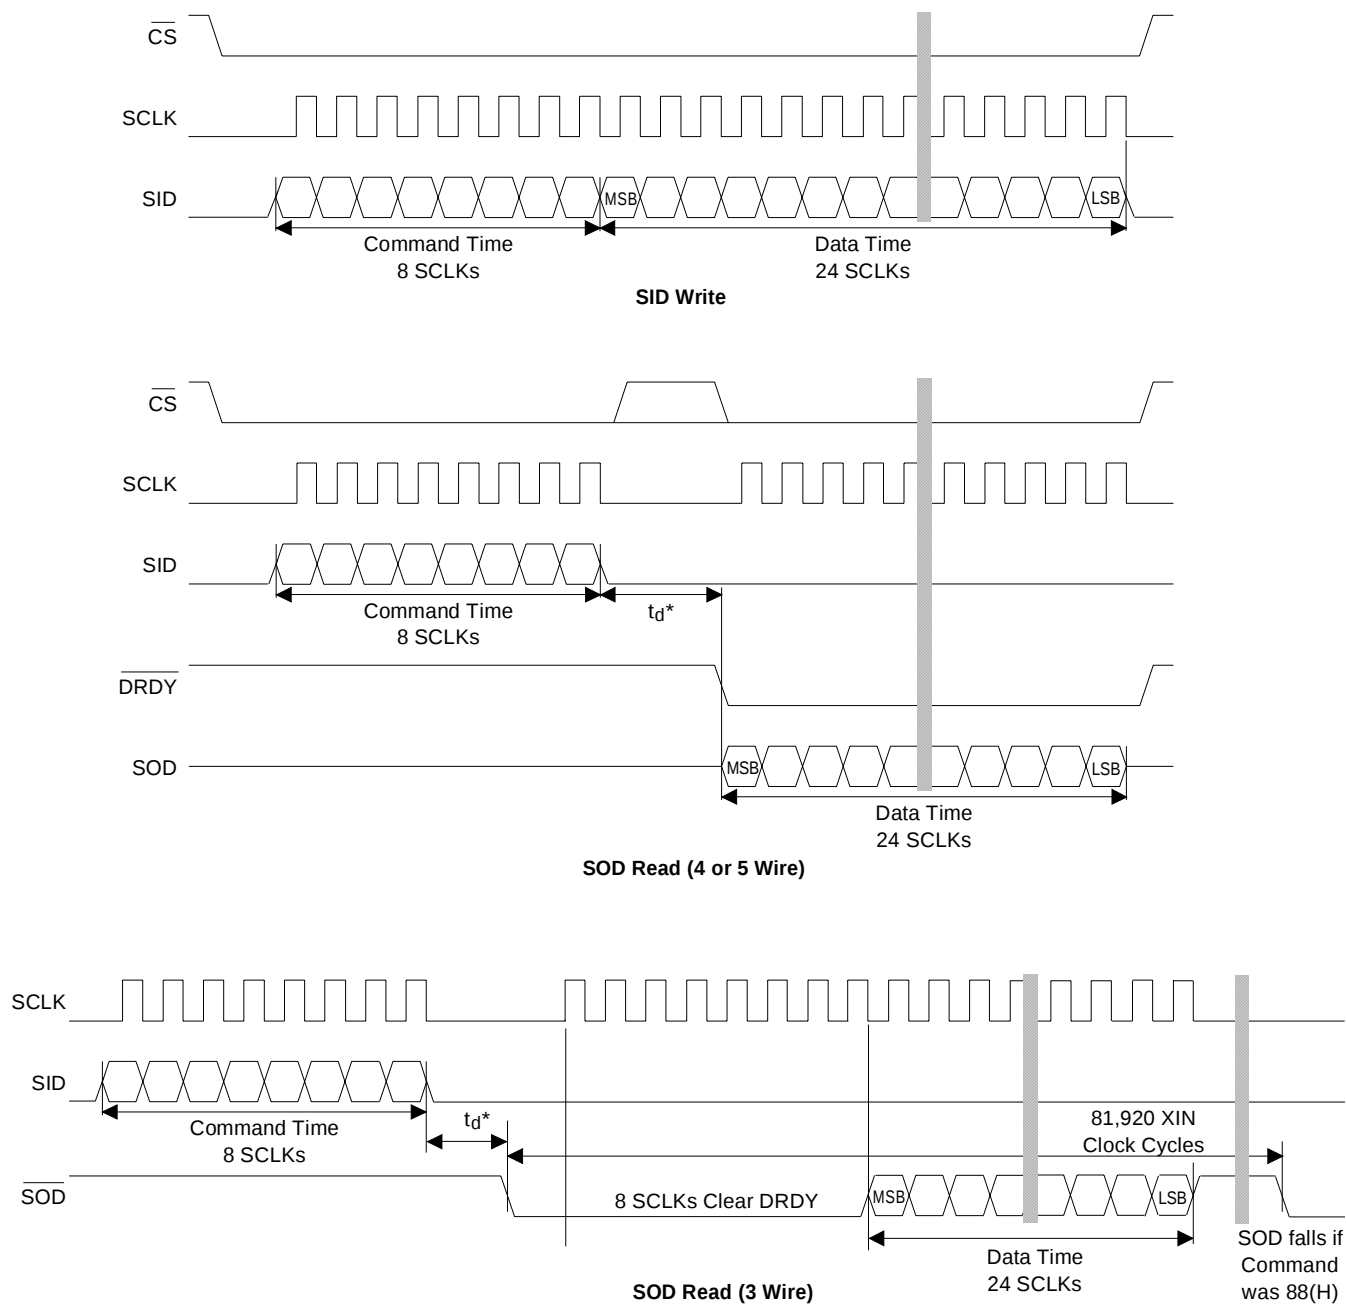

Figure 4. Command and Data Word Timing
Reading a register in the converter requires a command word to be written to the SID pin. For example, to read the conversion data register, the following command sequence should be performed. First, the command word 88(H) would be issued to the port. In the 5 wire interface mode, this would involve activating $\overline{CS}$ low, followed by 8 SCLKs (note that SCLK must always start low and transition from low to high to latch the transmit data, and then back low again) to input the 8-bit command word. $\overline{CS}$ must be low for the serial port to recognize SCLKs during a write or a read, but it is actually the first rising SCLK during command time that gives the user control over the port. After writing the command word, the user must pause and wait until the CS5520 presents the selected register data to the serial port. The $\overline{DRDY}$ signal will fall when the data is available. When reading the conversion data register, it may take up to 112,000 XIN clock cycles for $\overline{DRDY}$ to fall after the 88(H) command word is recognized. See Figure 4 for an illustration of command and data word timing.